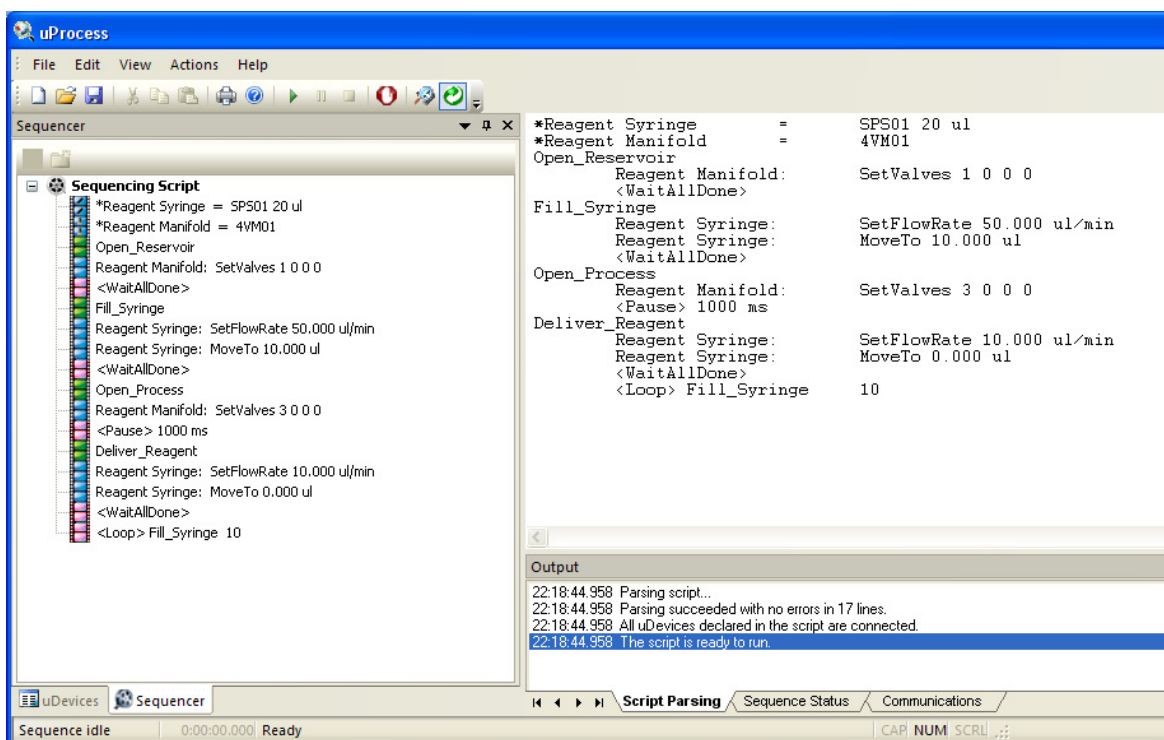

Figure 32. The Complete Example Script.
22. Click **OK**. Again, select the **Sequencer Window** tab and click on a step in the script to view the complete script (Figure 32).